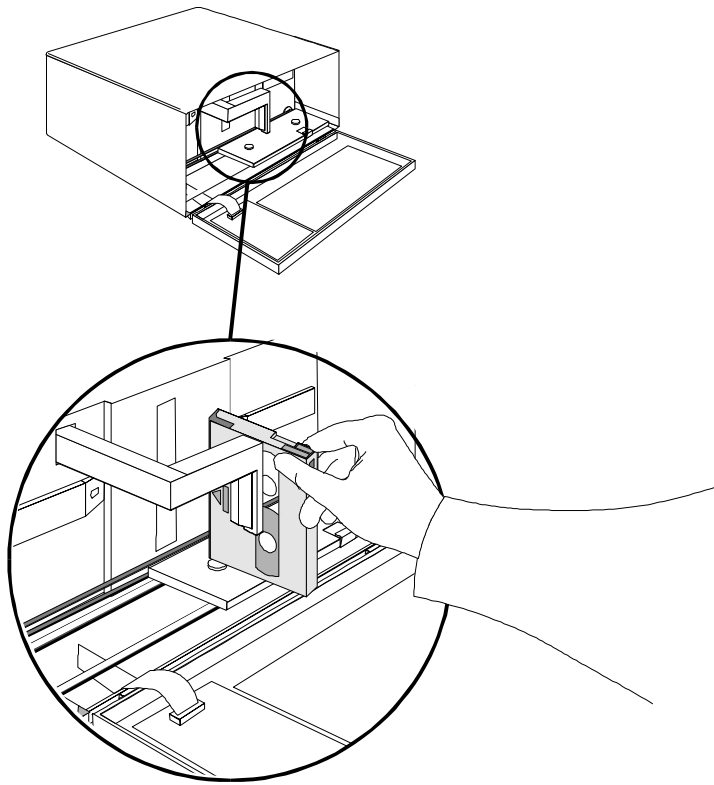

Figure 15. Inserting the Cleaning Cassette into the Drive.
- ❑ Insert the cleaning cassette into the drive opening (see Figure 15). The drive will load the cassette and automatically begin the cleaning process. The cleaning cycle may take from 2 to 3 minutes. The media status LED will flash amber during the entire cleaning cycle.